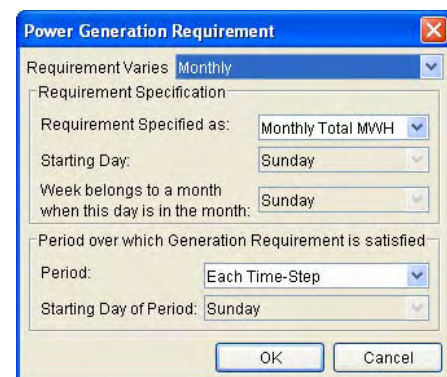

Figure 11.34 Power Generation Requirement Options
- Click the **Options** button to open the **Power Generation Requirement** editor (Figure 11.34).